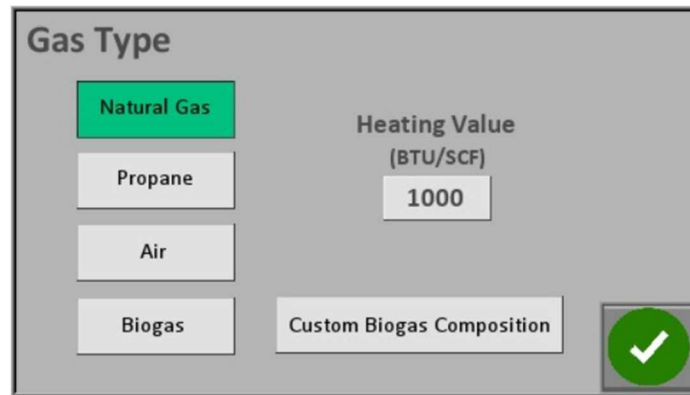

Figure 9: Gas Type Pop-up Window
14. Next, tap the button beside “Gas Type”. Common fuel gases can be selected, and a custom heating value for that gas can be entered if known. In Figure 9 below, “Natural Gas” has been selected, and a standard heating value of 1000 BTU / SCF has been automatically entered. If the “Heating Value” button is tapped, a different natural gas heating value can then be entered.